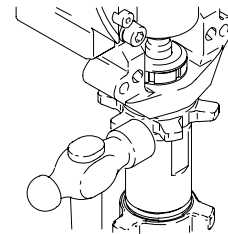

Fig. 9
6. Fig. 9. Screw jam nut (56) up onto pump until nut stops. Tighten jam nut by hand, then tap 1/8 to 1/4 turn with a 20 oz (maximum) hammer to approximately 75 ± 5 ft-lb (102 N.m).